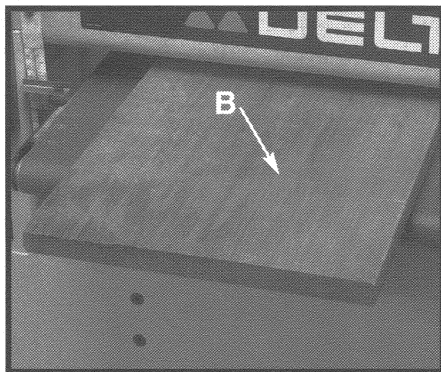

Fig. 19A
1. To check if the feed table is parallel with the drum cylinder, sand a wide board (B) Fig. 19A (preferably 12" or more in width x 2 feet long) until it is flat across the total surface area on both sides.